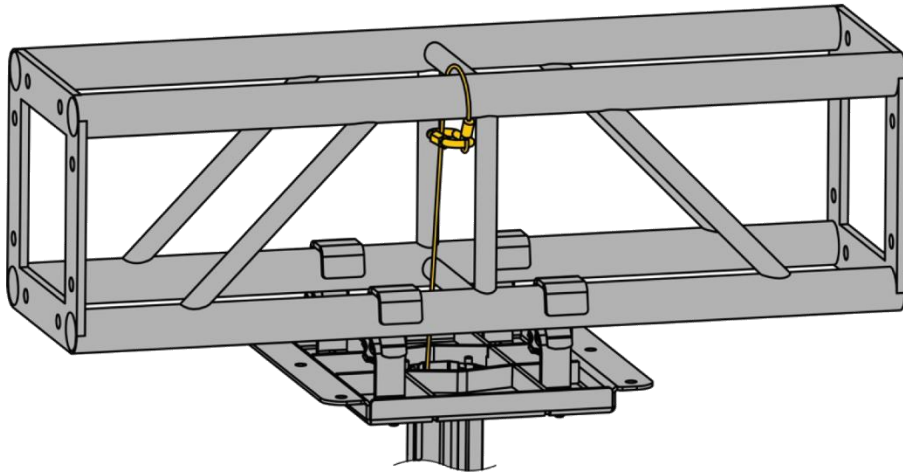

Figure 95: Step 13B
13B] For truss mount: Use a quick link to secure one end of the safety cable ⑫ around the truss. Conduit the other end of the safety cable ⑫ into the upper tube ② and lower tube ③, as shown in **Figure 95**.